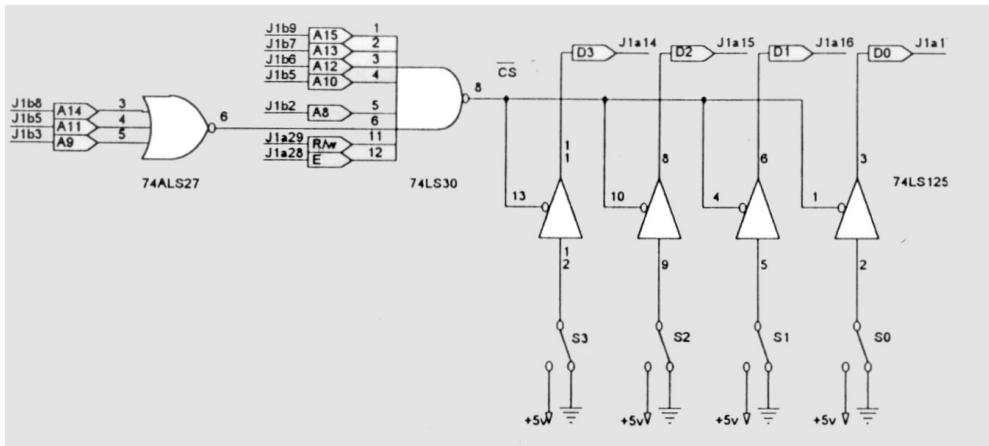

Figure 7.2 – Input to a microprocesor unit
Inputs of the address decoding circuit are connected to the address bus and necessary control outputs (such as R\W, E, ...) and outputs of this circuit are connected to chip select lines (CS) of each peripheral device. 74ALS27 (NOR Gate) and 74LS30 (NAND Gate) in Figure 7.2 are used for address decoding circuit (chip select). 74LS125 (Tri-state buffer) and toggle switches are used for input.
In Figure 7.2 \overline{CS} output is reset to Logic “0” only when: